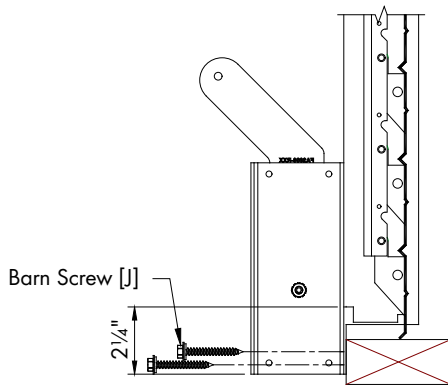
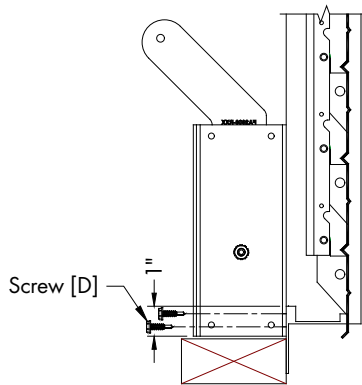
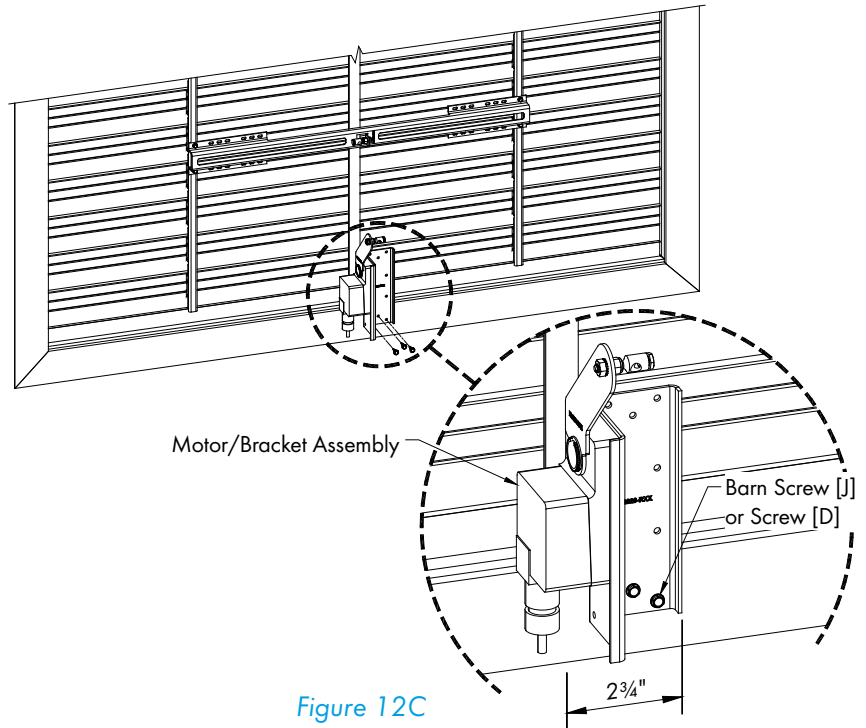

Figure 12A
Figure 12B
Figure 12C
If shutter is installed with framing on the blade side of shutter, then install Motor/Bracket Assembly to shutter so that the bottom of the bracket is flush to the bottom frame ( $2\frac{1}{4}$ " below top of bottom frame) using (3) Barn Screws [J]. See Figure 12A. If shutter is installed with framing opposite of the blade side of shutter, then install Motor/Bracket Assembly to shutter so that the bottom of the bracket is 1" below top of bottom frame using (3) Screws [D]. See Figure 12B. The right side of the bracket should be  $2\frac{3}{4}$ " right of the center of the shutter. When in place the bracket should be parallel to the T-Bar and the holes in each of the Swivel Ball Joints should line up, adjust placement if needed. Secure bracket in place using (3) Barn Screws [J] or (3) Screws [D]. See Figure 12C.